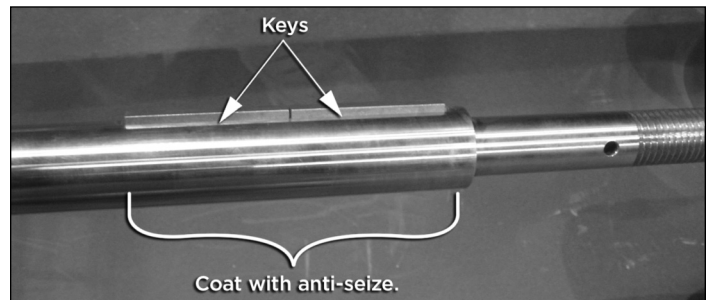

Figure 9
9. Install the square key in the slot just below the threaded end of the agitator shaft. On the area where the key and agitator shaft will contact the hollow output shaft of the gear reducer, apply a liberal coating of food-grade lubricant, such as NEVER-SEEZ® White Food Grade or Loctite® Food Grade Anti-Seize. See Figure 9.